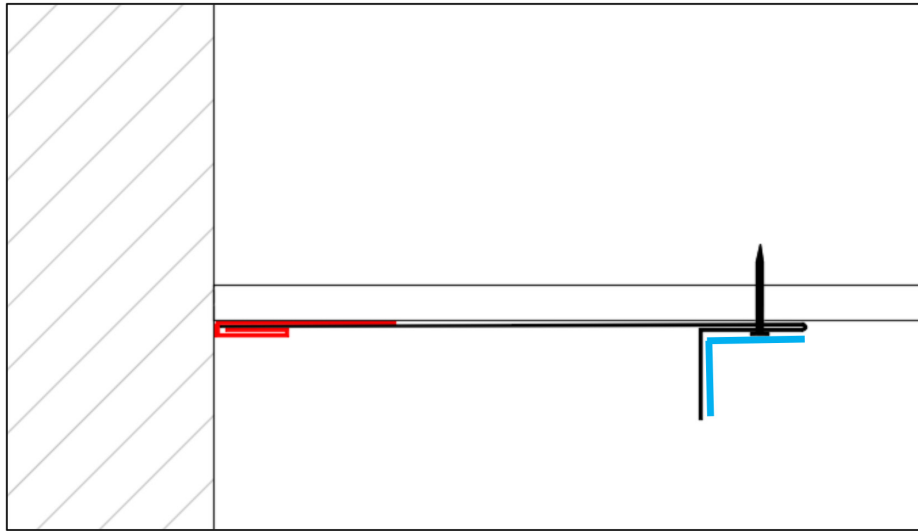

Figure 3. Plan View – Gripper in Red
4. Sleeve this into the gripper piece on the Figure 3 and fix at third points along the piece. The area highlighted in blue in Figure 3 should have MS Polymer added over the height of the seam. This will ensure there is no slippage of the standing seam over time.